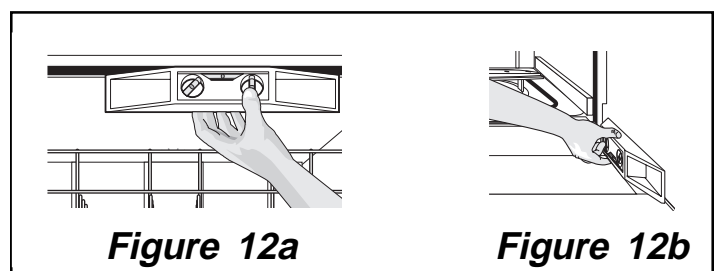

Figure 12a
6. Check that dishwasher is level from side to side by placing a level against the top front section of the tub. See Figure 12a.